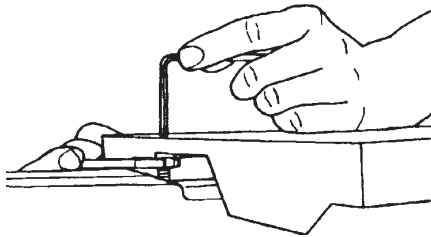

Figure A-23
7. Hold the table height screw in place, while you use a 1/2" wrench to tighten the hex nut against the table, see Fig. A-23.